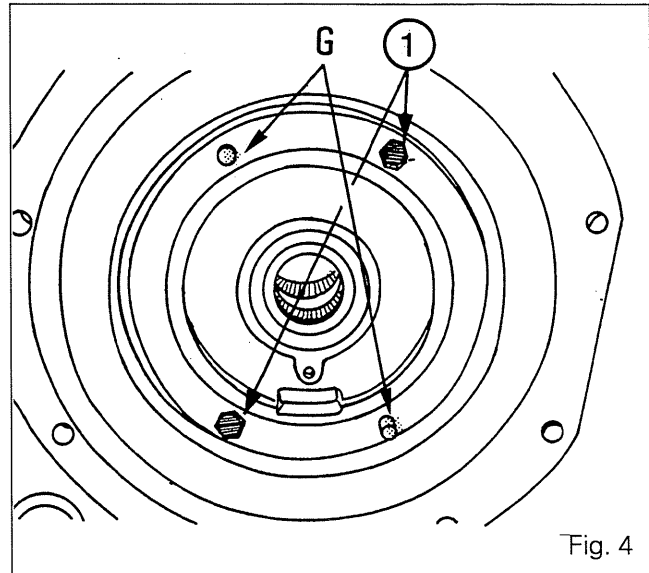

Fig. 4
15. Fit the O-ring (41).
16. Screw in two diametrically opposite guide studs «G» on the housing (Fig. 4).
17. Refit the spring (10), the sliding coupler (9), the friction ring (8) and the carrier (2).
18. Fit and tighten two bolts (1) to a torque of 85 to 130 Nm. Remove the guide studs. Fit the other two bolts and tighten them to the same torque (Fig. 4).
19. Fit the pipe (40) and the connector (39).